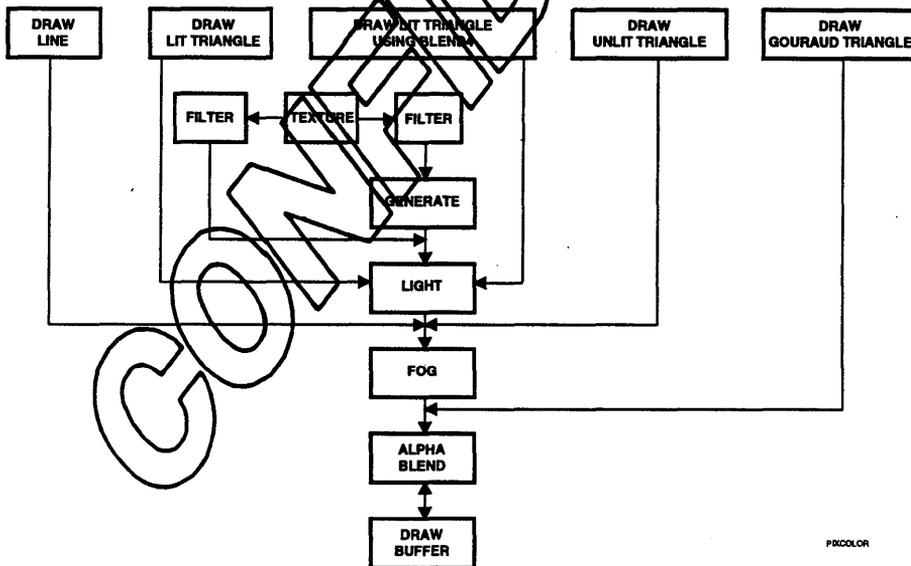

Figure 15-7. Pixel Coloring
Pixel color generation for 3D drawing occurs in a series of steps as depicted in Figure 15-7. The first of these, calculate the source pixel color, has been explained in the 3D line and triangle drawing sections above. The remaining steps are:
4. Fog - Also called depth cueing. As shown in Figure 15-7, the input can either be the source pixel color or the result of the filter/generate steps.
Lighting is the blending of the texel color with the source pixel color. As seen in Figure 15-7, it is used only when a lit triangle is specified in bits 29-27 of the Command Set register. Bits 16-15 of the Command Set register specify the blending modes as follows:
Fogging is enabled via bit 17 of the Command Set register. This operation uses the pixel's alpha value to interpolate between the pixel color at this stage of the coloring process (see Figure 15-7) and a fog color specified in MMB(0/4)F4. If the alpha value corresponds to the distance from the viewer, this is called depth cueing. If fogging is being done, source alpha cannot be specified for alpha blending (i.e., bits 19-18 of the Command set register cannot be 11b).
Alpha blending blends the pixel color at this stage of coloring (see Figure 15-7) with the color of the corresponding pixel in the draw buffer. It is enabled via bits 19-18 of the Command Set register. If these bits are 10b, the texture alpha is used for the interpolation factor. The texture alpha is actually the alpha for the pixel at this stage of the coloring and not a texel alpha. If bits 19-18 are 11b, the source alpha is used for the interpolation factor. This is the original pixel alpha before texturing.